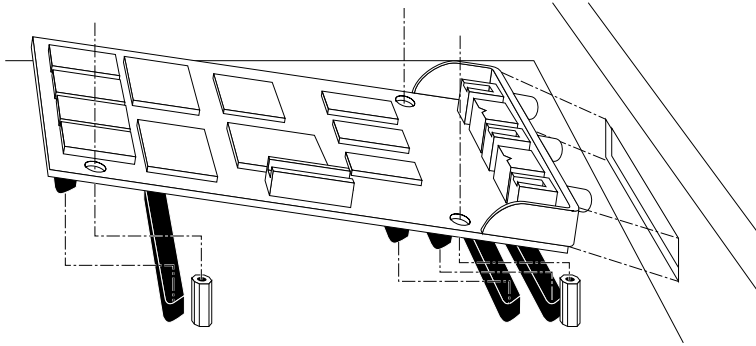

Figure 4-5 Inserting the Indy Video board's I/O connector through the slot
4. Lower the Indy Video board over the graphics board, inserting the board's I/O connector through the open slot on the rear of the chassis, as shown in Figure 4-5.